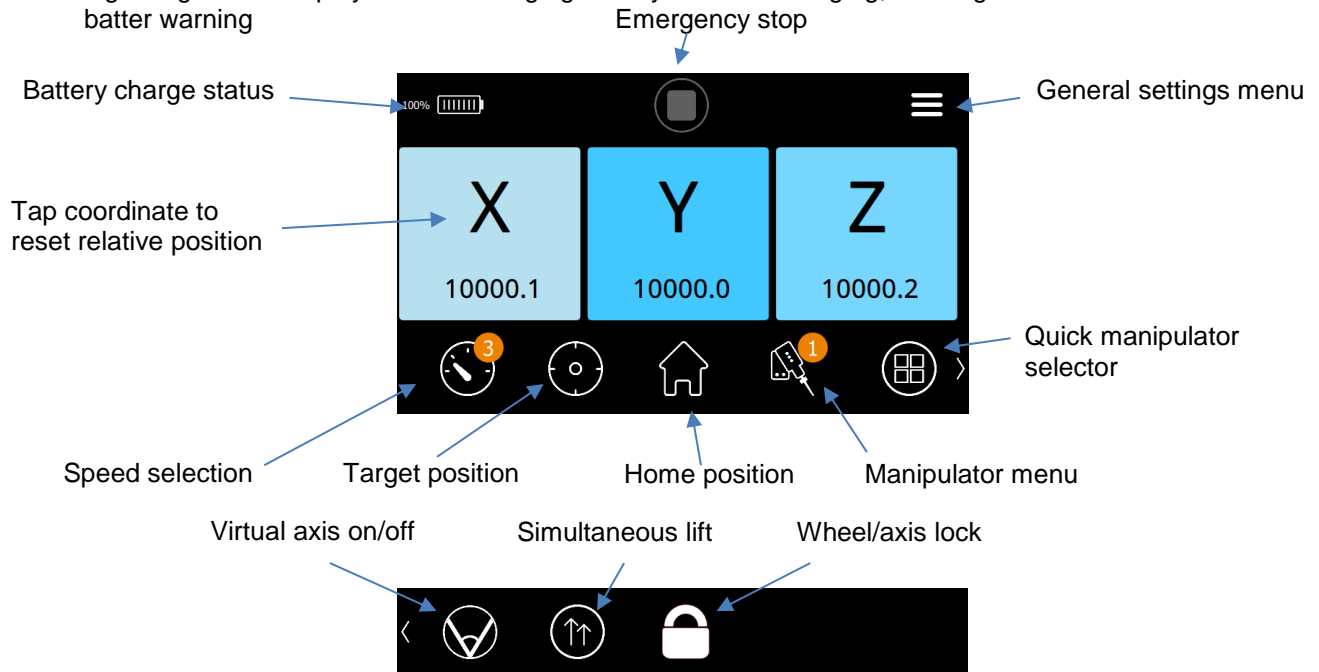

Figure 10. uMp-TSC main view
- Activate virtual axis from Micromanipulator settings menu -> Virtual axis settings (Fig 13, left) or by using quick button of main view (Fig 10; yellow line below quick button symbol indicates that virtual axis is on)